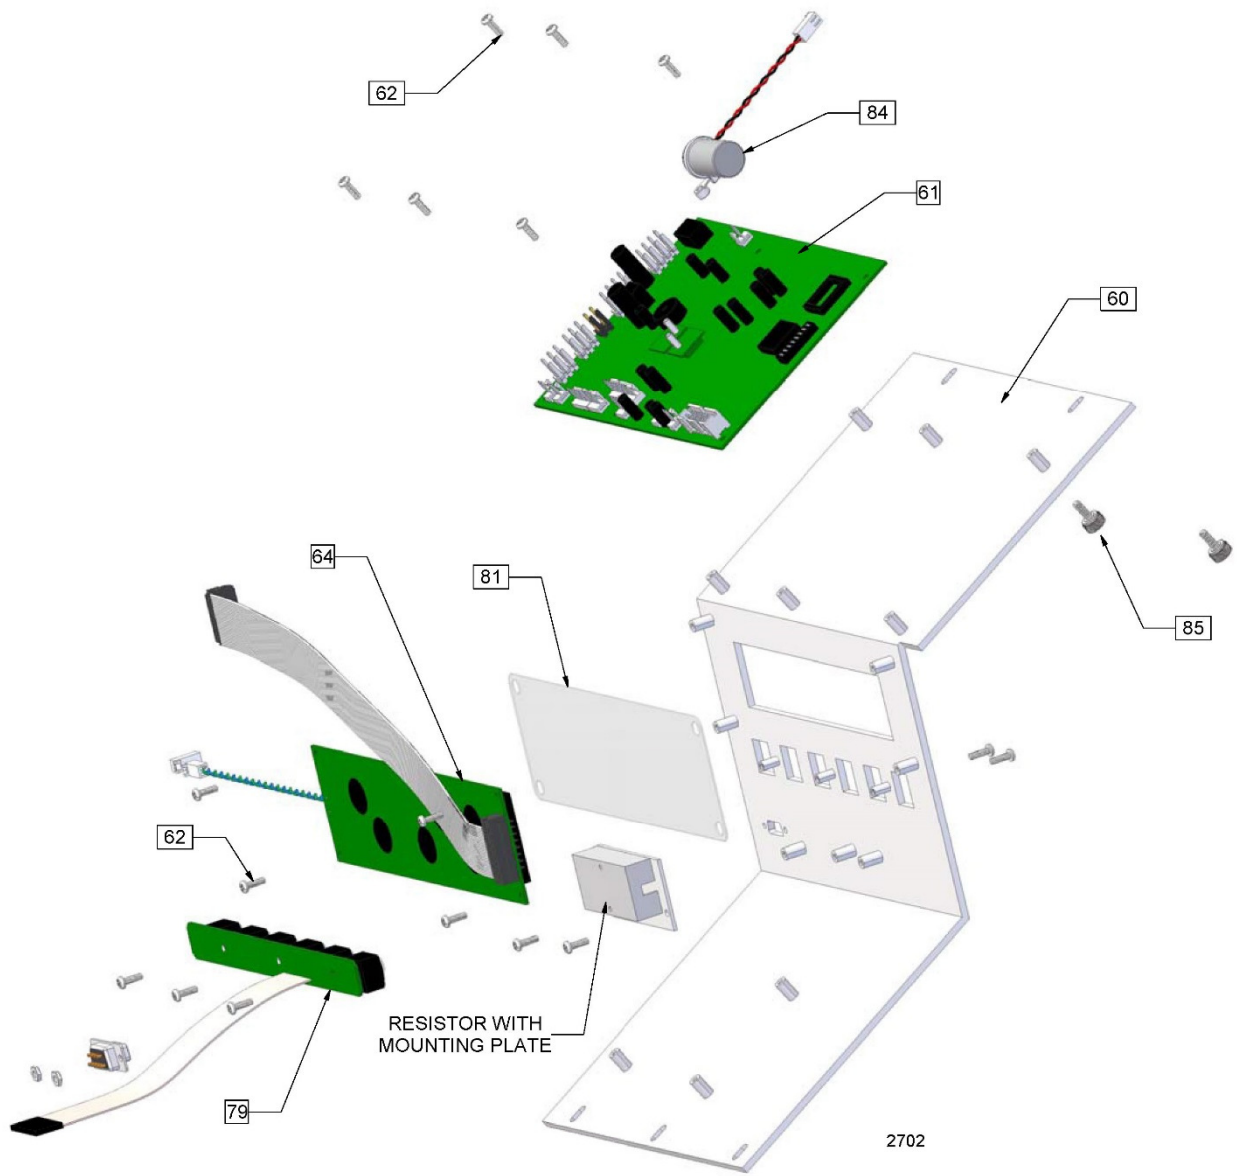

Figure K2. Exploded View of Instrument Panel
- 7) Install new Ambient Adapter cable (2338), Low Voltage Input cable (2335), Driver Board cable (2340) and Battery cable (1676). (Low Voltage cable is mounted above Ambient Adapter cable (See figure K2).
- k) Plug in the Low Voltage cable (2335) (See figure K2) to the CHARGER connector.
- m) Install clock battery (84, Fig K2) and connect wire to LiBAT connector.